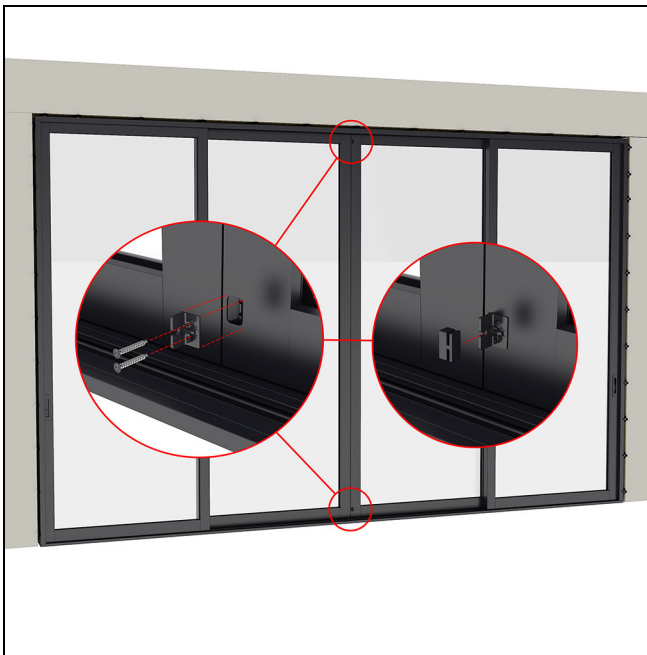

Figure 174 XOOX Interior view
15. Install the bumper brackets on the stile of the (J) panel. Orient the brackets so the tab is pointed to the left as seen from the interior. There is a mating surface on the back side of the bracket that fits into the panel rout. Fasten with #10 x 1 1/2" Phillips head screws. Insert the rubber bumper over the bracket with the wider section facing the left. See Figure 174